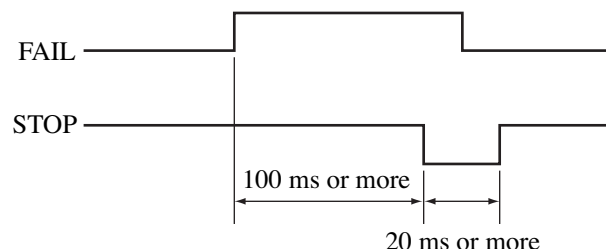

Fig. 6-5 Timing of a STOP Signal
- To cancel a FAIL state, transmit a STOP signal of at least 20 ms in duration no sooner than 100 ms after the generation of a FAIL signal, as indicated in Fig. 6-5.